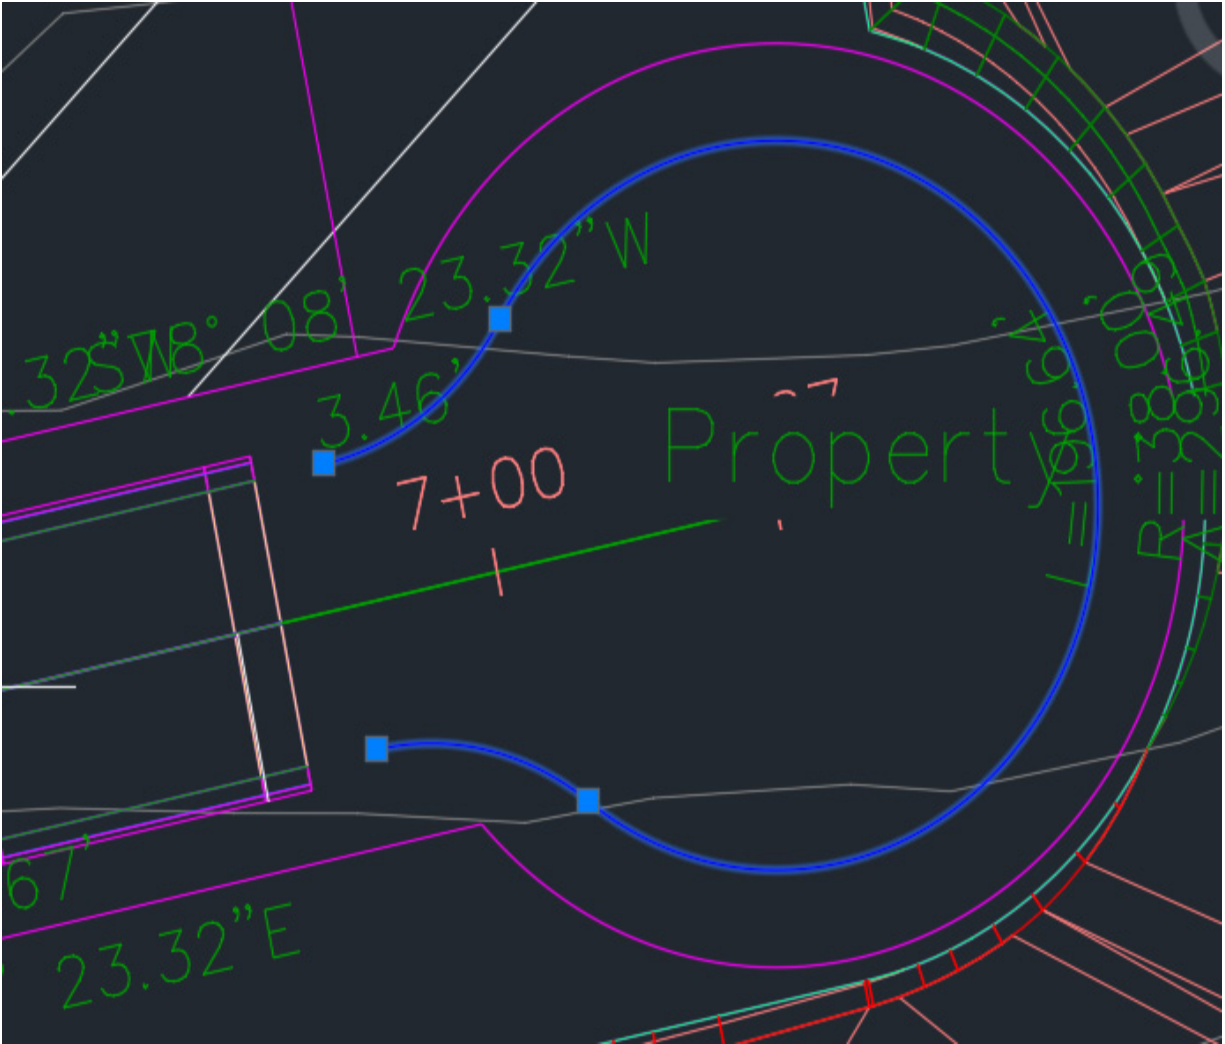

Figure 10.27 – Edge-of-lane arc in our cul-de-sac
7. Erase the offset lines. We should be left with the edge-of-lane being displayed in our cul-de-sac, similar to that shown in *Figure 10.27*: